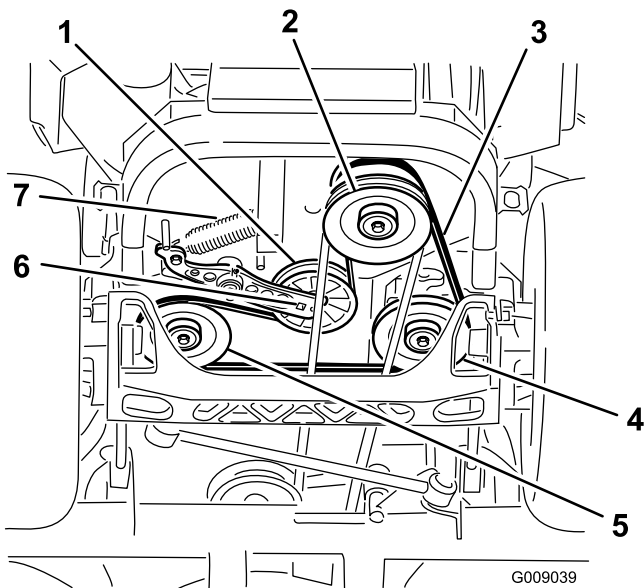

Figure 84
4. Raise the machine and support it with jack stands (Figure 84).
5. Use a ratchet in the square hole in the idler arm to remove the idler spring (Figure 84).
6. Unhook the idler spring from the frame (Figure 84).
9. Using a ratchet in the square hole in the idler arm, install the idler spring to the frame (Figure 84).